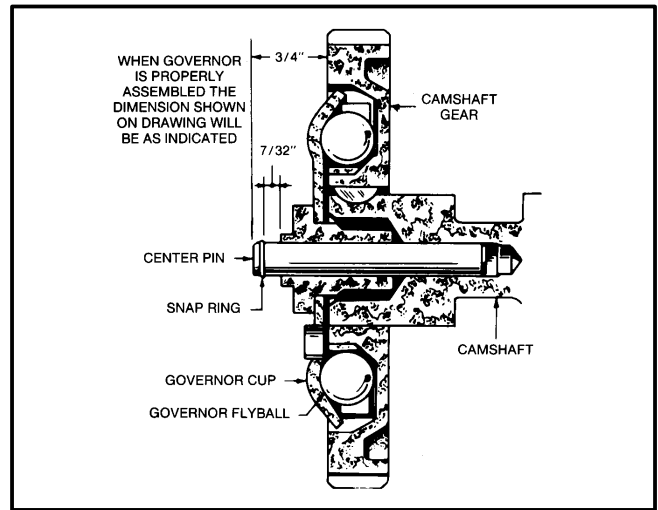

FIGURE 10-11. GOVERNOR CUP DETAILS
With the gear cover removed, the governor cup can be taken off after removing the snap ring from the camshaft center pin. Catch the flyballs while sliding the cup off (see Figure 10-11).
2. install the cup and snap ring on the center pin (see Figure 10-11).
3. The camshaft center pin extends out $3/4$ inch (19 mm) from the end of the camshaft. This distance provides an in-and-out travel distance of $7/32$ inch (5.6 mm) for the governor cup, as illustrated in Figure 10-11. Hold the cup against the flyballs when measuring.